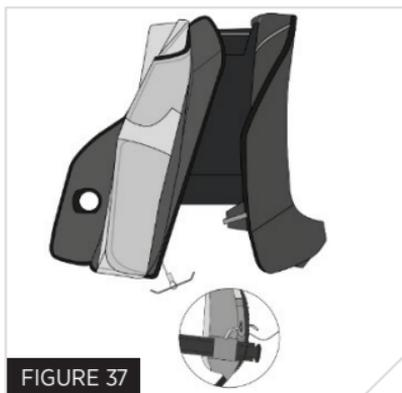

FIGURE 37
17. Thread the manual inflation handle through the stitched buttonhole on the side of the cover (Fig. 37).